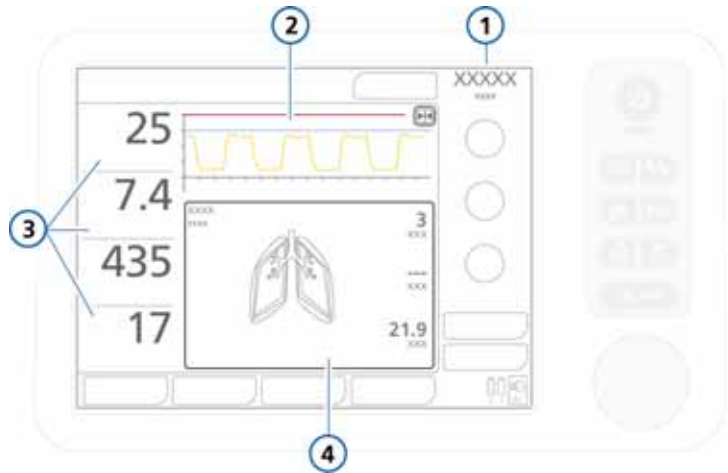

Figure 7-1. Main display
During ventilation, you can view patient data on the HAMILTON-MR1 screen (Figure 7-1). You can configure the screen layout with different waveforms, loops or trends, or with Intelligent Panel graphics to suit your institution's needs. Access the Monitoring window at any time without affecting breath delivery.
- The pressure/time waveform. This graph is always displayed and is not configurable. See item 4 in Figure 7-1.